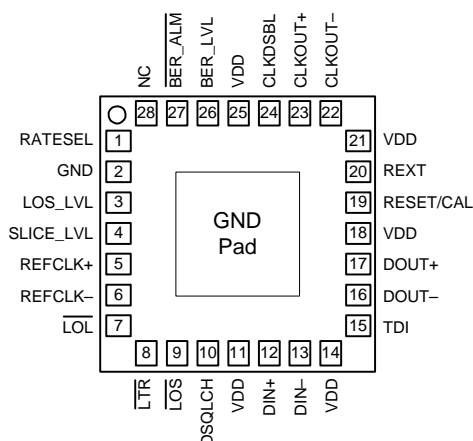
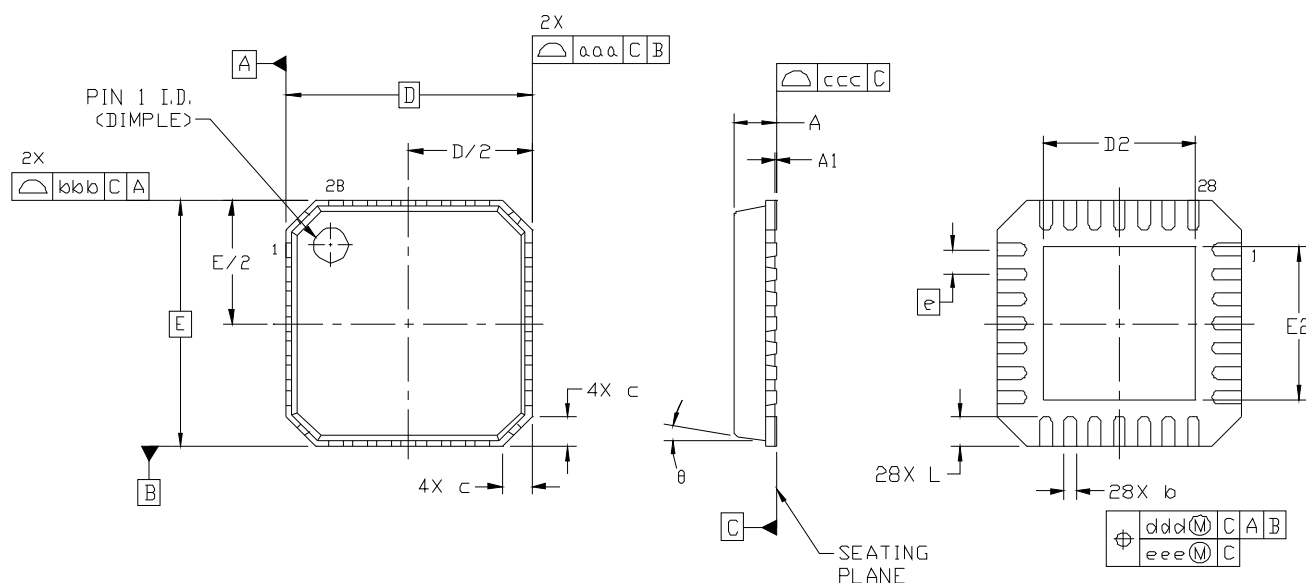

Figure 15. Si5013 Pin Configuration
Figure 16. 28-Lead Quad Flat No-Lead (QFN)
The Si5013 uses the GND pad on the bottom of the 28-pin micro leaded package (QFN) for device ground. This pad should be connected directly to the analog supply ground. See Figure 15 on page 19 and Figure 16 on page 23 for the ground (GND) pad location.
Figure 16 illustrates the package details for the Si5013. Table 9 lists the values for the dimensions shown in the illustration. For a pad layout recommendation please contact Silicon Laboratories.
- Updated Figure 16, “28-Lead Quad Flat No-Lead (QFN),” on page 23.